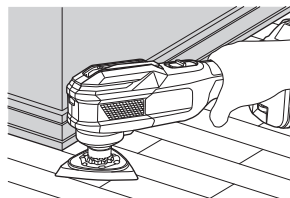

Fig. 15
- (1) Switch the unit on and use the dial to set the speed of the application tool.
- (2) Lightly place the application tool on the material and move the application tool back and forth at a pace where the movement isn't slowed. (Fig. 15)